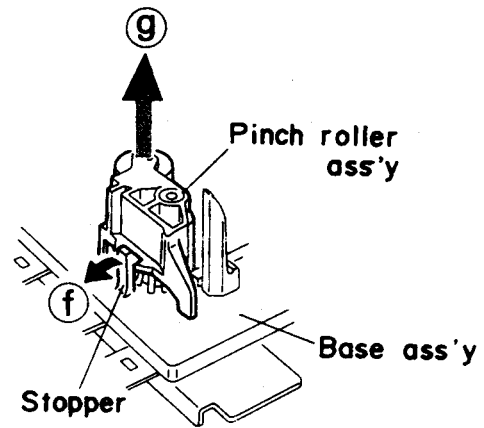

Fig. 2-25
■ Pinch roller assembly (Fig. 2-25)
1. Pull out the stopper protruding from the base assembly in the direction of the arrow ① to remove it from the pinch roller assembly.
2. Then, pull out the pinch roller assembly in the direction of the arrow ②.